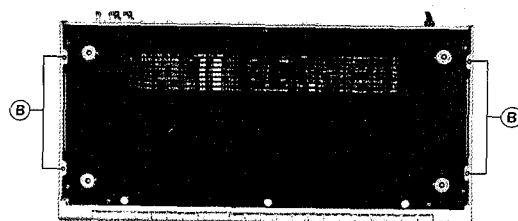

Fig. 25
- 1) Make the unit up-side down, see Fig. 25. Remove 4 screws (B)